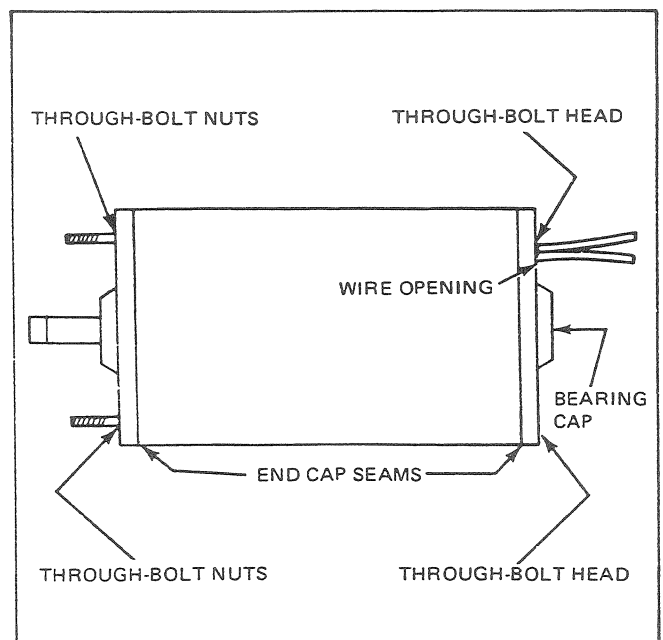

Fig. 11 – Article No. 116
12. Seal the following areas on the new motor using suitable silicone sealant. (See Fig. 11)